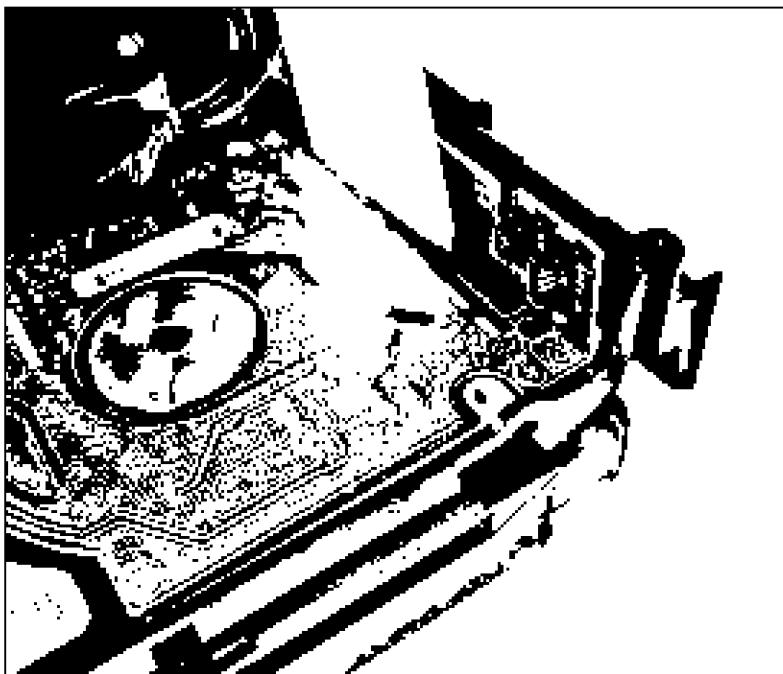

Figure 7-9:
10. With a nonconductive tool (such as a plastic putty knife), pry the hard drive off the connector of the interconnect board, as shown in Figure 7-9.